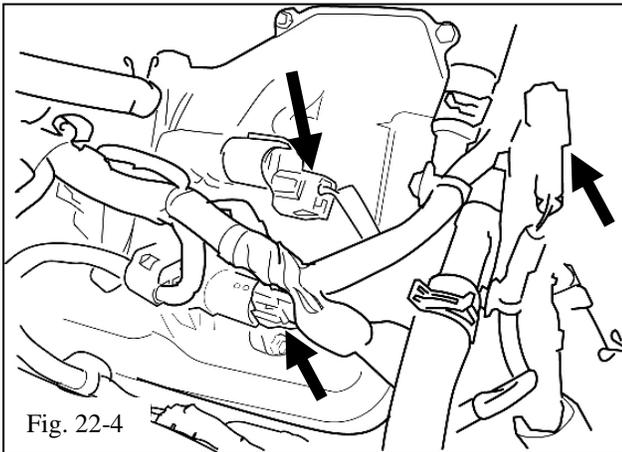

Fig. 22-4
- (f) Unplug the 2 VVT sensors and the front air injection connector (Fig. 22-4).